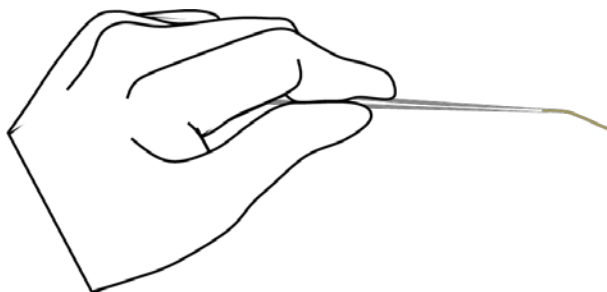

Figure 3: Reference image showing how to hold the fiber with the tweezers.
5. Use the tweezers to remove a piece of cotton fiber from the bag. Adjust the fiber so that it is in line with the tweezers (Figure 3).